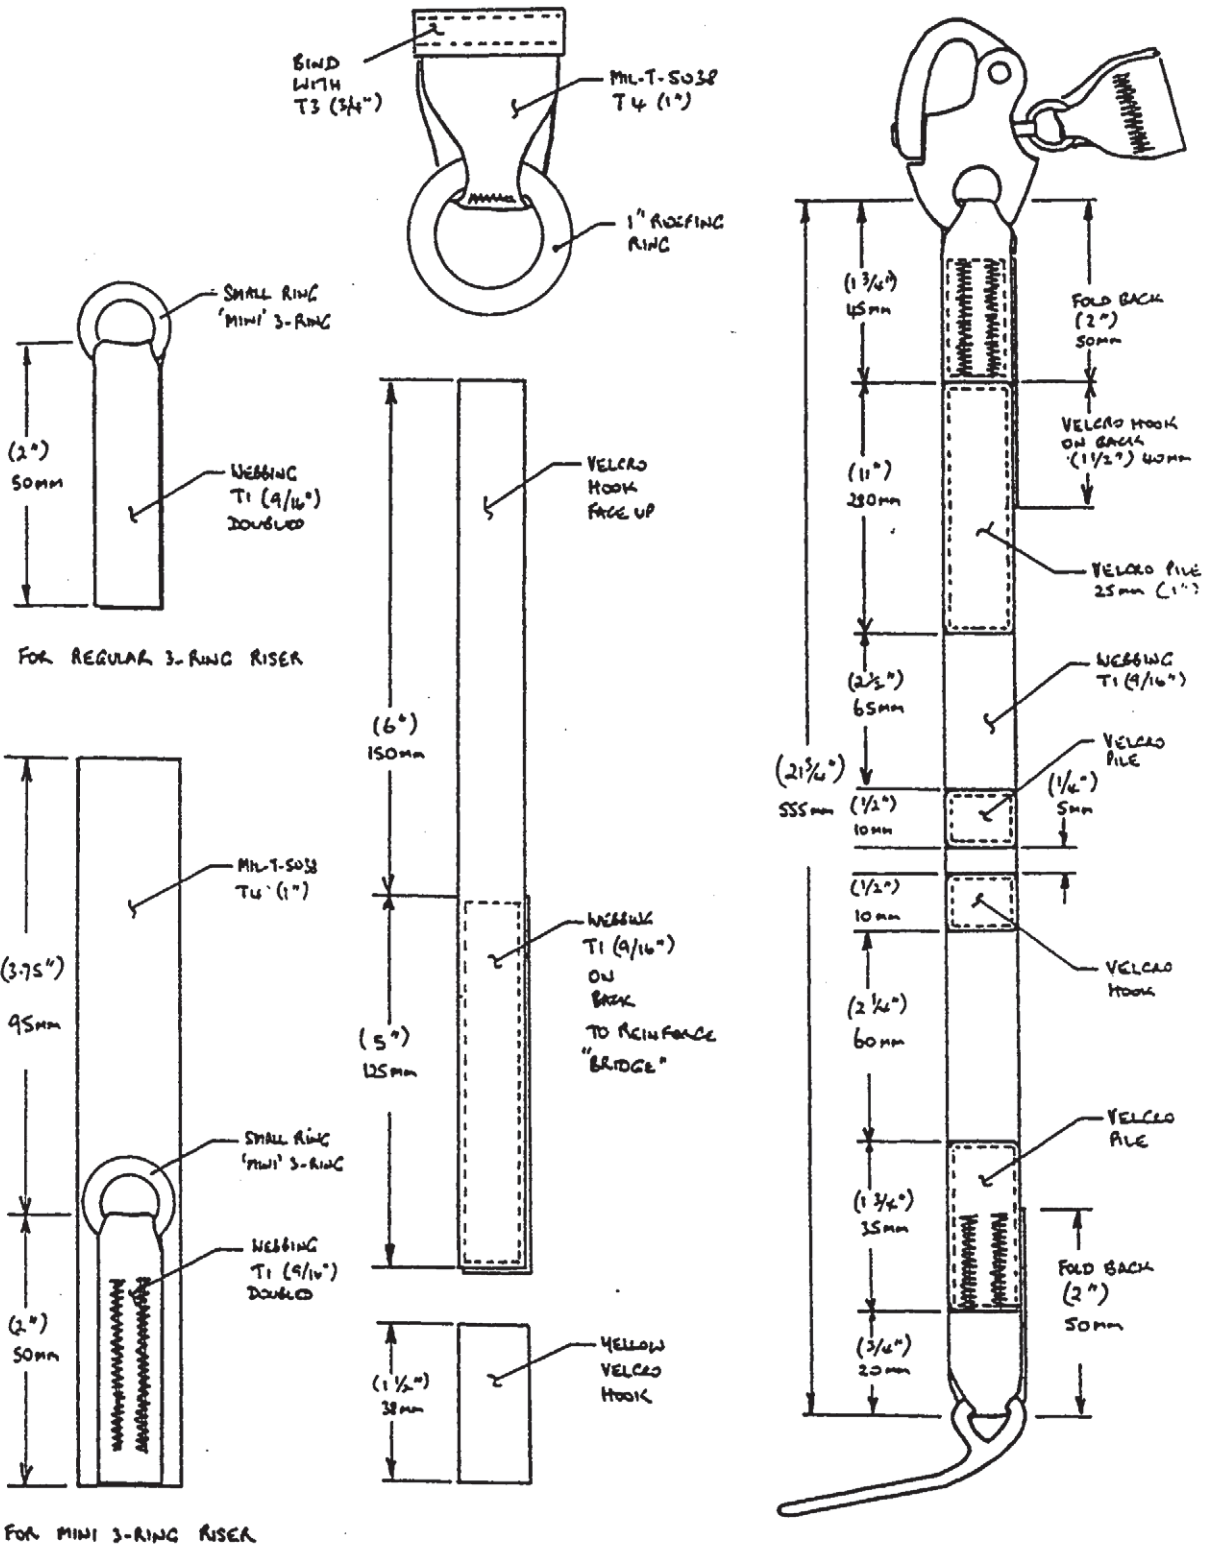

Fig. 1
- Vector RSL or parts necessary to manufacturer (see Fig 1) - Ring RW-3 mini ring system medium ring x 1
Step 1. By reference to Fig. 1 following, cut and assemble the component parts necessary to install the Vector RSL.